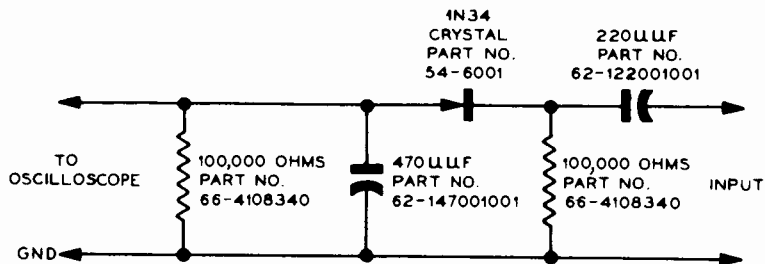

Figure 9. Wiring Diagram of Crystal Detector
9. Tune TC402 for minimum AM (noise) output. NOTE: The R-F Probe, Part No. 76-3595, is used as a detector of the 4.5-mc. signal, and the oscilloscope is used as an indicating device. An alternate crystal detector may be made up as shown in figure 9.